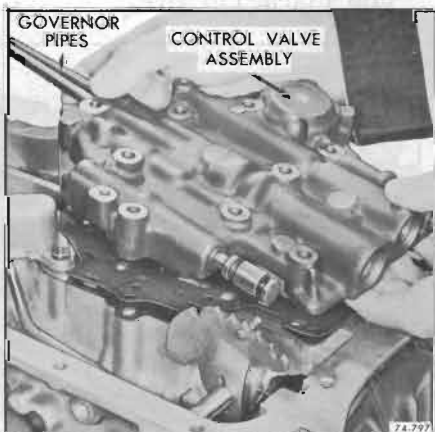

Figure 74-514
2. Remove valve body assembly and governor pipes. See Figure 74-514.